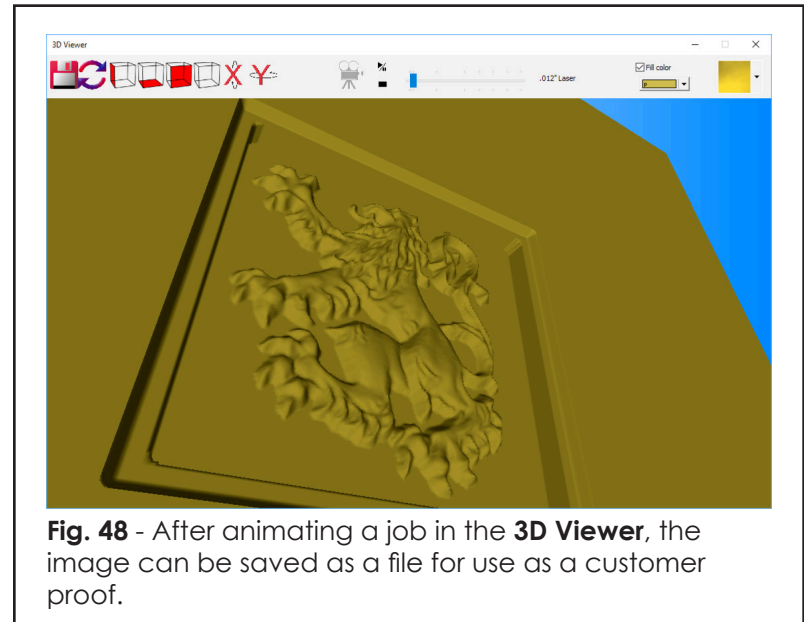

Fig. 48 - After animating a job in the **3D Viewer**, the image can be saved as a file for use as a customer proof.
4. The **3D Viewer** window will open (Fig. 48).